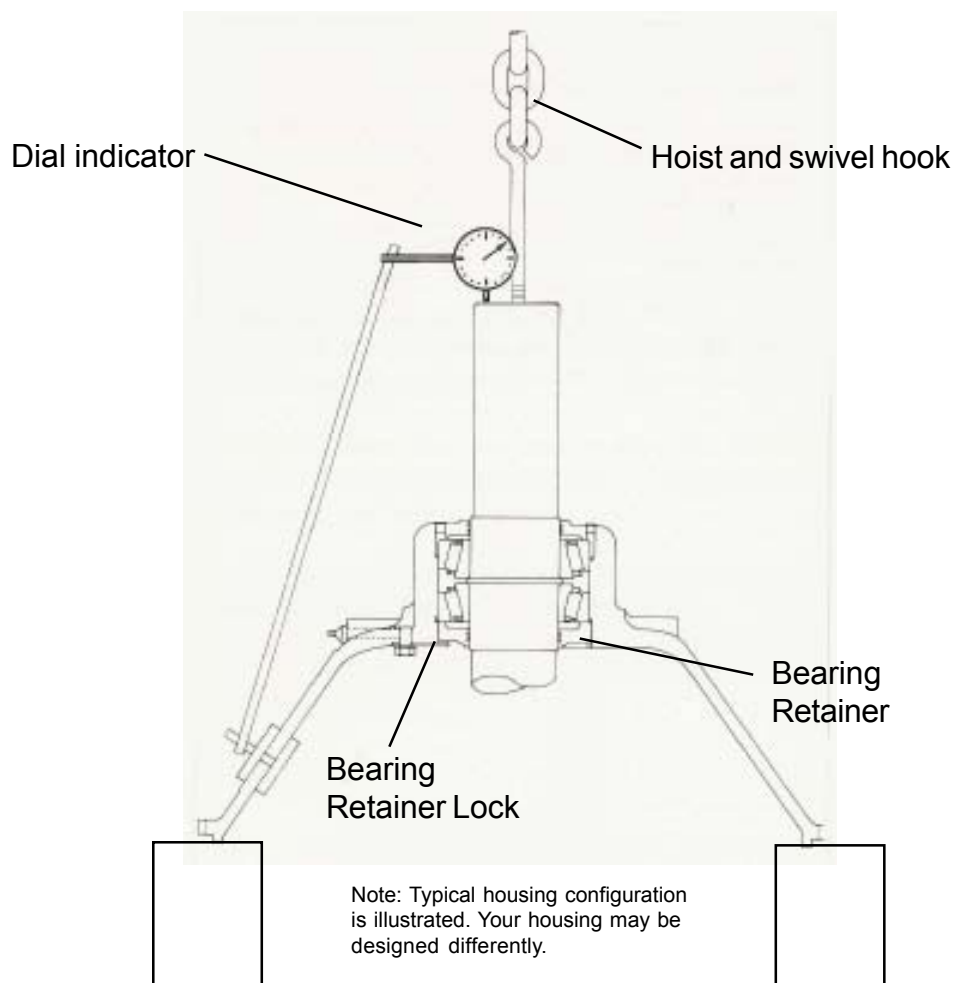

Figure 16. Measuring and setting bearing end play
20. Securely support the unit with the clutch shaft in a vertical position and the output end up (see figure 16). Be sure the shaft is clear to rotate.